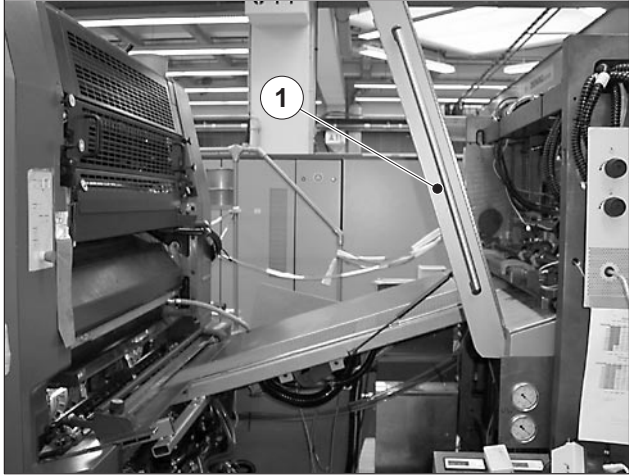

Fig. 79
4. Fold up the feed table (Fig. 79/1) on O.S.